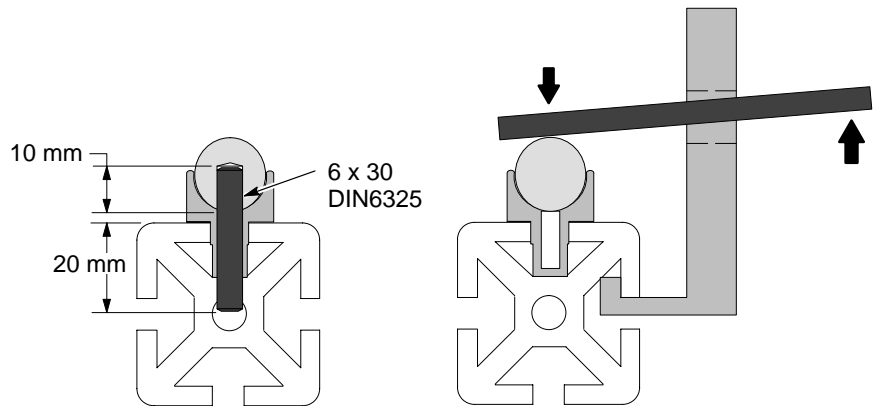

Figure 16 Guide Shaft Replacement
7. See Figure 16. Before pressing the new shaft into the clamp, use a carbide bit to drill a correctly sized dowel hole the same distance from the end as the old shaft dowel, and install a 6 x 30 DIN6325 dowel in the shaft.
8. Press the shaft into the clamp, using a non-marring tool similar to that shown in Figure 16, making sure the dowel fits into the existing hole in the clamp and extrusion.